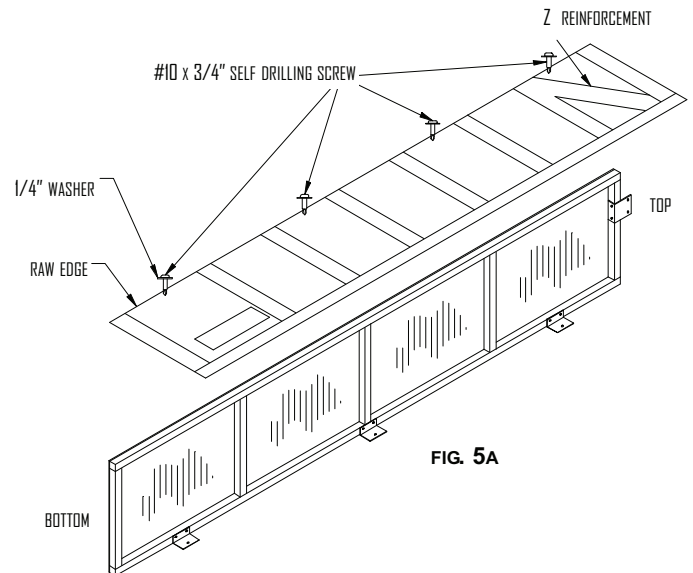

FIG. 5A
- Rest vertical frame on wall edge and mounting brackets (Fig. 5a).
- Place bottom of vertical panel flush with bottom of vertical frame (Fig. 5a).